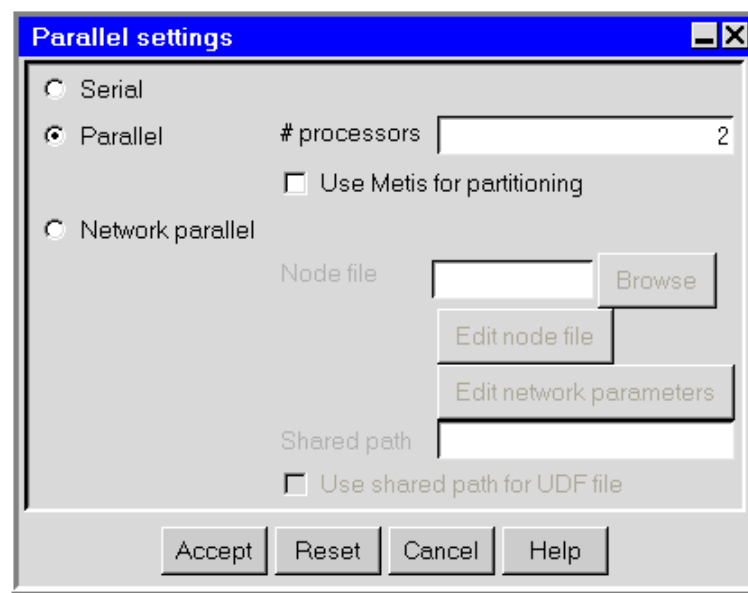

Figure 27.11.6: The Parallel settings Panel
5. Specify whether you want the solution to be run in serial or in parallel. To run the solution in serial, keep the default selection of **Serial** in the **Parallel settings** panel (Figure 27.11.6). See Section 27.11.3 for details about running a solution in parallel.
You will set up all the parameters for the parallel version of the solver in the **Parallel settings** panel (Figure 27.11.6).
To run Airpak on a dedicated parallel machine (i.e., a multiprocessor workstation), select **Parallel** in the **Parallel settings** panel (Figure 27.11.6) and specify the number of processors to be used in the **# processors** field.
To run **Airpak** on a network of computers, select **Network parallel** in the **Parallel settings** panel (Figure 27.11.6). You must specify the name of the node file in the **Node file** text entry field. You can enter your own filename, which can be a full pathname to the file (beginning with a / character on UNIX or a drive letter on Windows) or a pathname relative to the directory in which **Airpak** was started. Alternatively, you can choose a filename by clicking on the **Browse** button located next to the **Node file** text field and then selecting the file in the resulting **Node file for parallelism** dialog box.